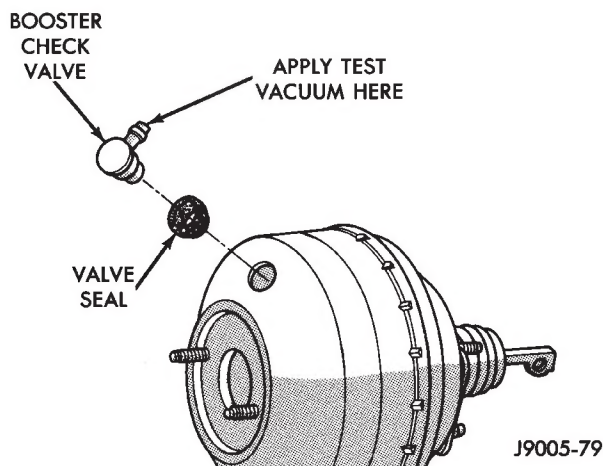

Fig. 1 Typical Vacuum Check Valve And Seal
- (1) Disconnect vacuum hose from check valve.
- (2) Remove check valve and seal from booster (Fig. 1).
- (4) Apply 15-20 inches vacuum at large end of check valve (Fig. 1).
- (5) Vacuum should hold steady. If gauge on pump indicates any vacuum loss, valve is faulty and must be replaced.